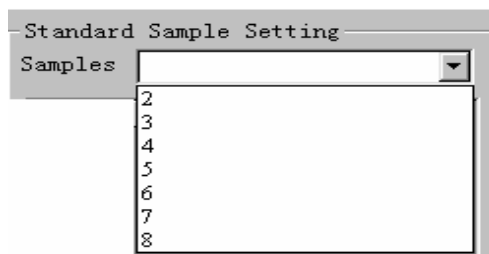

Figure-30 **Standard Sample Setting**
Step 4: Under **Standard Sample Setting**, click the **Arrow** Button and set the number of standards (from 2 to 8) to be used (Figure-30).